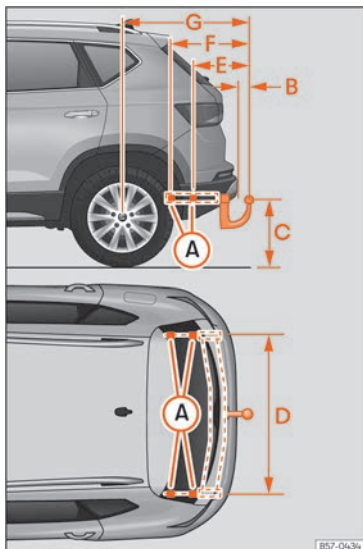

Fig. 182 Limits and attachment points for retrofitting a towing bracket.
The distance between the centre of the ball head and the road >>> Fig. 182 (C) must never be less than that indicated. This also applies when the vehicle is fully loaded, including the technically permissible maximum vertical load on the coupling device.